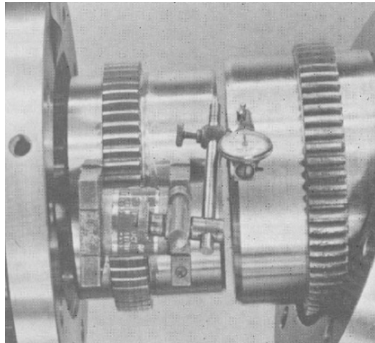

Figure 5 - Angular misalignment
8.2. The “Angular Misalignment” value is the maximum difference between the measurements X and Y taken at opposite ends of the hub flanges, as shown in Figure 5.